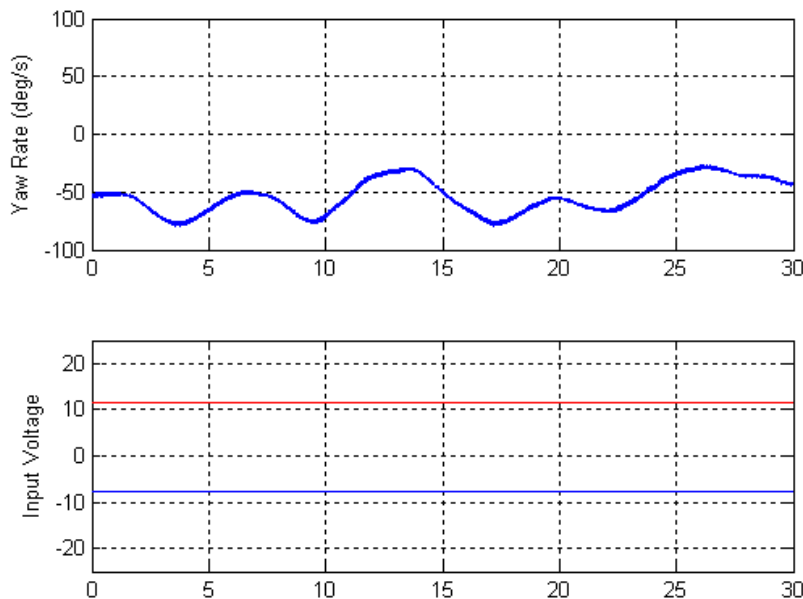

Figure 40: Identifying the viscous damping about the yaw axis.
4. In the *Scopes* subsystem, double-click on the *theta (deg)*, *psi (deg)*, and *Vm Actual (V)* sinks. In the *theta (deg)* scope, the desired pitch position is the yellow line, the measured pitch position is the purple plot, and the simulated pitch position is light blue trace. Similarly for the yaw *psi (deg)* scope. The *Vm_actual (V)* scope plots the voltage being applied to the pitch motor in yellow and yaw motor in purple.
5. To identify the viscous rotary friction parameter in the yaw axis a voltage step command must be applied to the yaw motor. In the *Desired Voltage* subsystem, set the *Signal Generator: Yaw (V)* block to 2.5.
6. Change the control switch to 4. The yaw input motor voltage is now the control voltage used to stabilize the yaw angle, $u_{lqr,y}^*$, added to the commanded open-loop voltage, i.e. $V_{m,p} = u_{lqr,y}^* + 2.5$. The plot should resemble Figure 40.
where the bottom term is the average velocity of the yaw angle. From Figure 40, the voltage and average velocity found are: